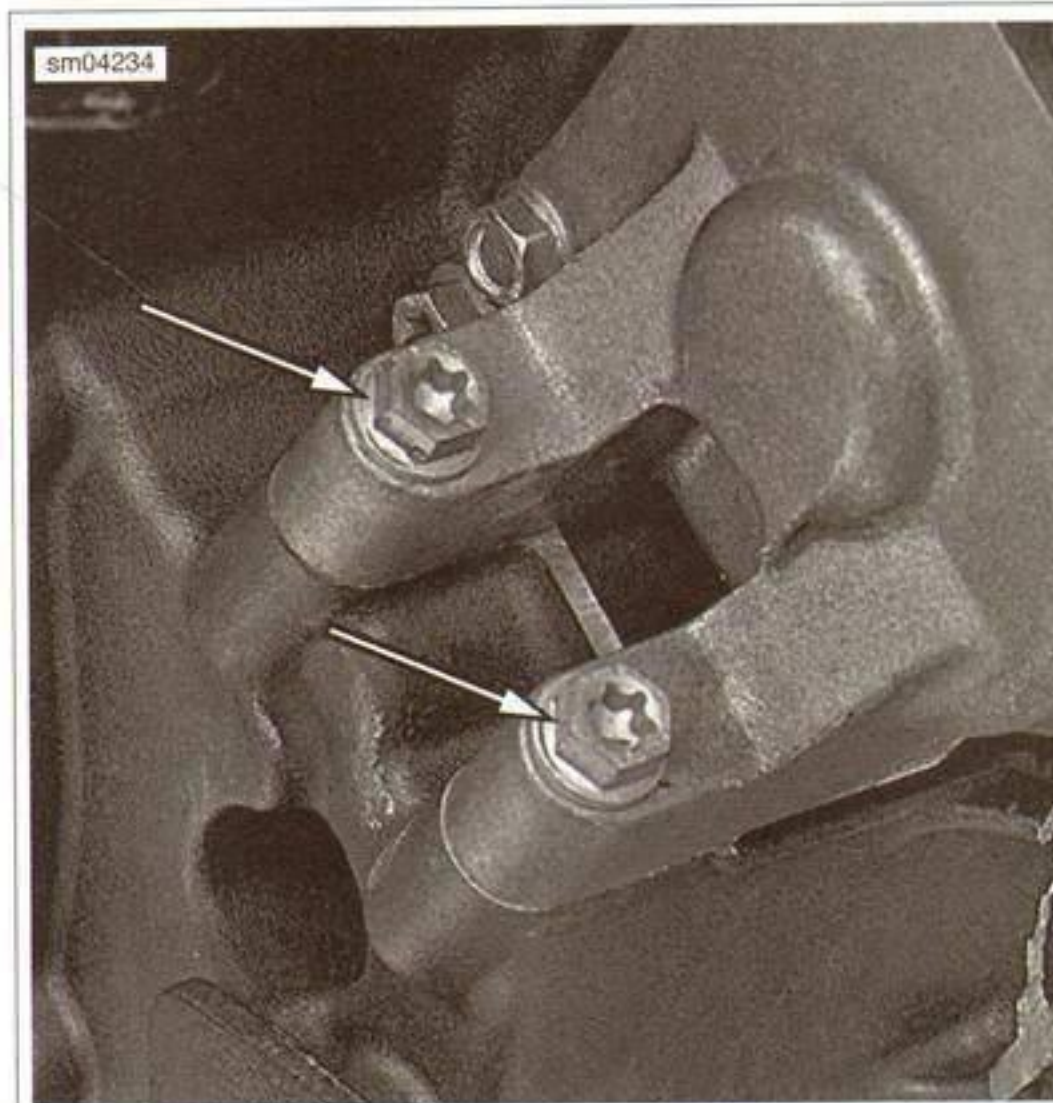

Figure 7-26. Starter Fasteners
5. See Figure 7-26. Remove the fasteners and pull the starter out to clear the crankcase.